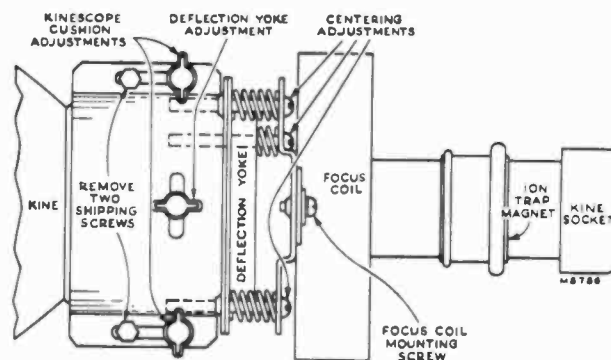

Figure 3—Yoke and Focus Coil Adjustments
Remove the two self-tapping screws from the kinescope cushion slide as shown in Figure 3.
**CENTERING ADJUSTMENTS.**— Centering is obtained by adjustment of the centering controls and by mechanically orienting the focus coil with three adjustment screws shown in Figure 3. The focus coil should be concentric around the neck of the kinescope to prevent curvature of the raster.
**FOCUS COIL ADJUSTMENTS.**— If, after making the centering adjustments in the above paragraph, a corner of the picture is shadowed, it will be necessary to loosen the focus coil mounting screws (shown in Figure 3) and change the position of the coil to eliminate the shadow. Re-center the picture by adjustment of the electrical centering controls and the focus coil centering adjustments.
**CAUTION.**— The ion trap magnet employed for 16AP4 kinescopes is not the same as that used on 10BP4 tubes. Care should be taken to insure that the proper magnet supplied with the instrument is used. The type magnet shown in Figure 3 carries the number 986432-1 stamped on it.